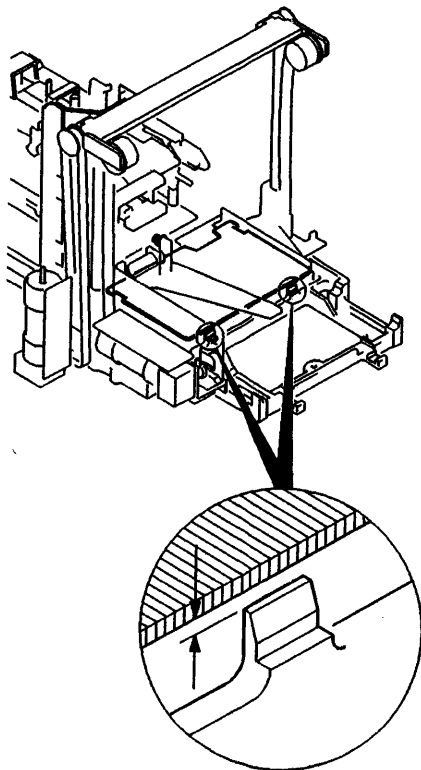

Figure 7-2. Checking the Platform Assembly
- 5) Starting with the platform slightly above vertical home, lower it gradually until the baseplate is close to the two machined lugs on the base casting (see Figure 7-2).